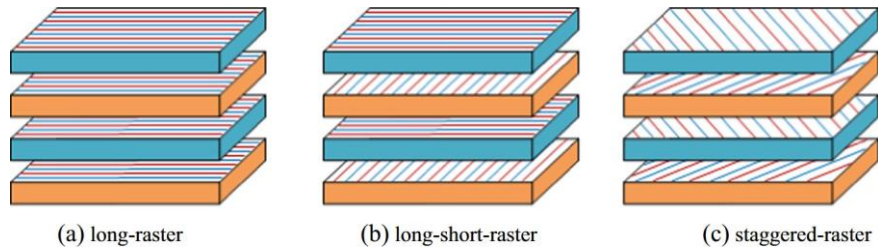

Figure 18: Schematic diagram of deposition style[10]
- Deposition style.** It is the pattern of raster used to fill the interior regions of the PLA part in accordance with the outline information of the cross section. The schematic diagram of three typical filling styles, including long-raster (0°), long-short-raster ($+90^\circ/0^\circ$), and staggered-raster ($+45^\circ/-45^\circ$), are exhibited in Figure 18. The angle value is the included angle between the filling line and ox axis.